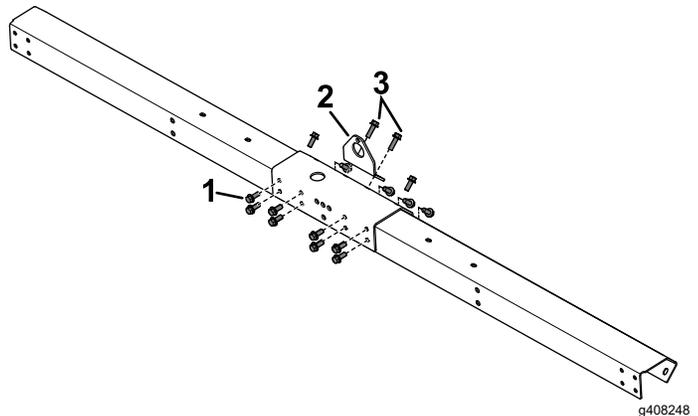

Figure 13
- Secure the left and right shrouds to the center support bracket with 14 hex bolts (3/8 x 1 inch) and 14 locknuts (3/8 inch); refer to Figure 13.
- Connect the center nozzle holder onto the shroud assembly with 2 hex bolts (3/8 x 1-1/4 inches) and 2 locknuts (3/8 inch); refer to Figure 13.